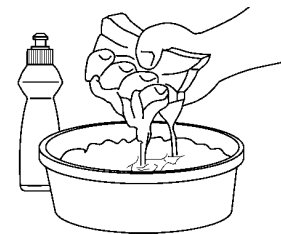

Figure 16
2. Wash the pre-cleaner and air filter in laundry detergent or kerosene (Fig. 16).